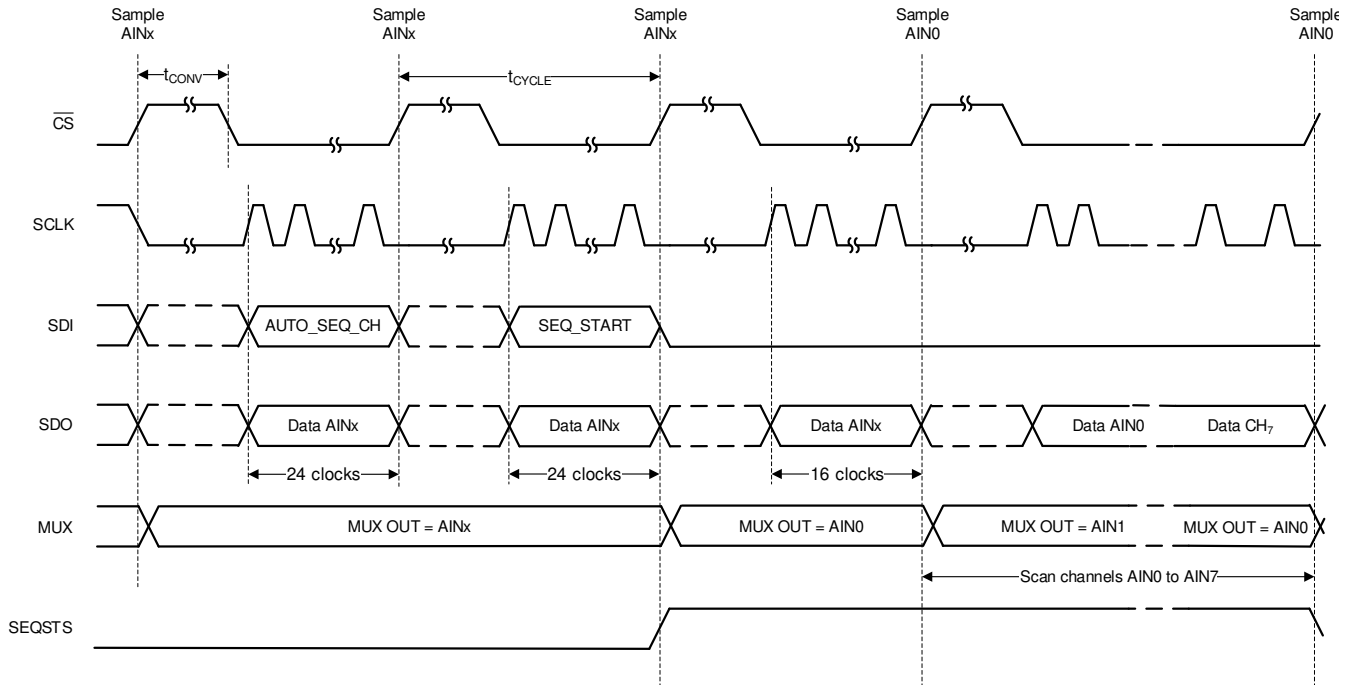
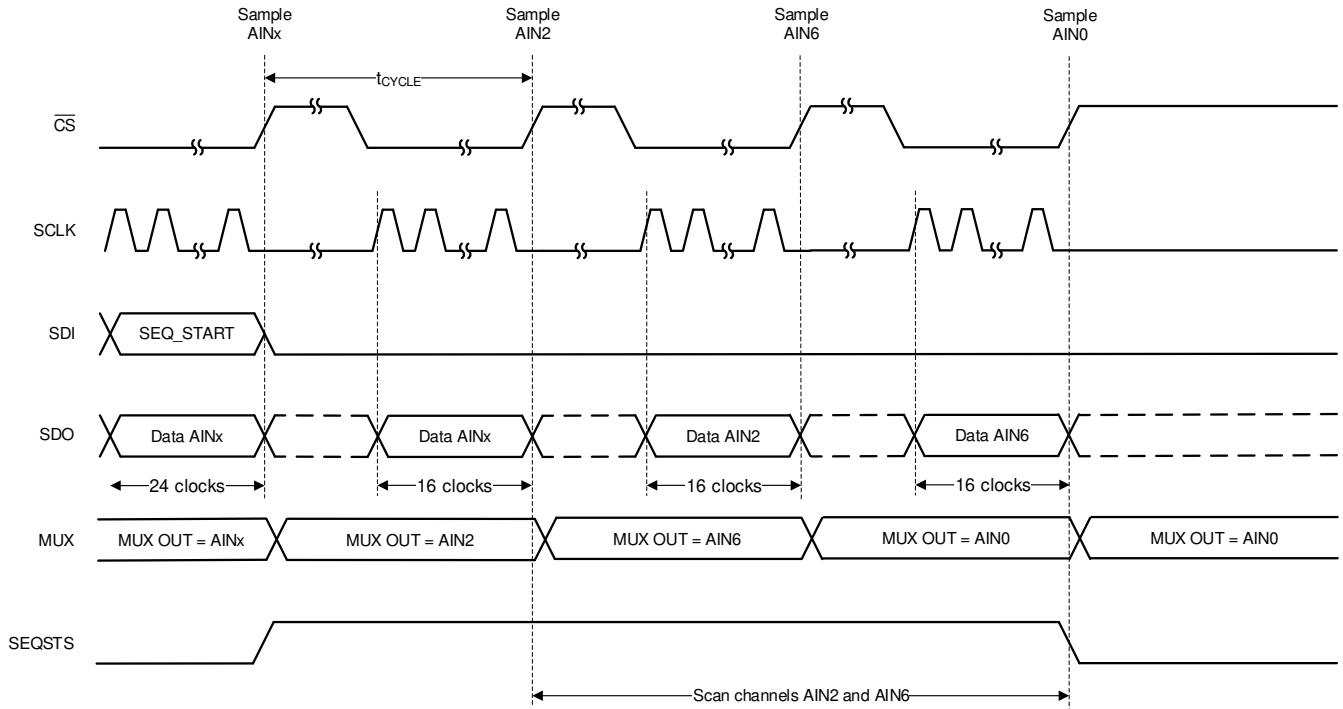

图 6-14. Starting a Sequence in Auto Sequence Mode
图 6-15. Example: Scanning Channels 2 and 6 in Auto Sequence Mode
In auto sequence mode, the internal channel sequencer selectively scans channels from AIN0 through AIN7 in ascending order. To select auto sequence mode, configure SEQ_MODE to 10b in the DEVICE_CFG register using a 3-byte register access. Enable one or more channels among AIN[7:0] by configuring the AUTO_SEQ_CFG1 register. By default all analog input channels are enabled. After enabling the desired channels, start the sequence by setting SEQ_START to 1b. The ADC auto-increments through the enabled channels after every \overline{CS} rising edge. Configure SEQSTS_CFG bit to 1b in SDO_CNTL4 register to indicate sequence status on SDO-1/SEQSTS pin. When SEQ_START is set to 1b, the SDO-1/SEQSTS pin is at logic 1 as shown in 图 6-14 until the last channel conversion is complete. After the last enabled channel conversion is complete, channel AIN0 is selected and SDO-1/SEQSTS is in a high-impedance state.
As an example, 图 6-15 depicts a timing diagram for when the device is scanning AIN2 and AIN6 in auto sequence mode. When AIN6 is converted, SDO-1/SEQSTS is Hi-Z and AIN0 is selected as the active channel. At the end of sequence, if more conversion frames are launched the device returns valid data corresponding to AIN0.
- Configure the AUTO_SEQ_CFG1 register. In 图 6-15, AUTO_SEQ_CFG1 = 0x44.
After configuring the channel scanning order, start index, and stop index, initiate the scanning by setting the SEQ_START bit to 1b. The ADC scans through the enabled channels after every \overline{CS} rising edge as defined by the channel scanning order. When SEQ_START is set to 1b, the SDO-1/SEQSTS pin is pulled high until the last channel conversion frame is complete, as described in 图 6-14. As illustrated in 图 6-15, channel AIN0 is selected and SEQSTS/SDO-1 goes to Hi-Z after the last enabled channel conversion is complete.
As an example, 图 6-15 provides a timing diagram for when the channel configuration is set as in 表 6-5. When AIN6 is converted, SEQSTS/SDO-1 goes to Hi-Z and AIN0 is selected as the active channel. If more conversion frames are launched at the end of the sequence, the device returns valid data corresponding to AIN0.
- Configure the CCS_START_INDEX and the CCS_END_INDEX registers. In 图 6-15, CCS_START_INDEX = 0 and CCS_STOP_INDEX = 1.
- Configure the CCS_SEQ_LOOP register to 1 to indefinitely loop the sequence. In 图 6-15, the CCS_SEQ_LOOP register = 0b.